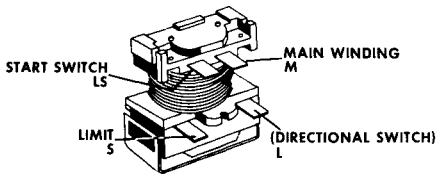

Figure 8 - Relay Terminal Locations
1. Position relay in its operating position (arrow up) and check for continuity between terminals "LS" and "M". Figure 8. If there is continuity, the coil is good.